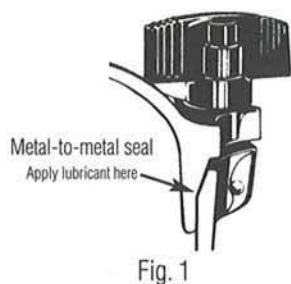

Fig. 1
1. LUBRICATE METAL-TO-METAL SEAL. Apply lubrication to the point or edge where side wall and bevel meet on the inside of bottom (See Fig. 1 where arrow tip is pointing). The bevel is not the seat; only the point or edge where bevel meets the wall. The recommended lubricant is petroleum jelly. Only a thin film is required. Excess amounts of lubrication may cause leakage and gumming. Professional sterilizer lubricating material is available from scientific supply houses, but readily available material such as Vaseline may be used.